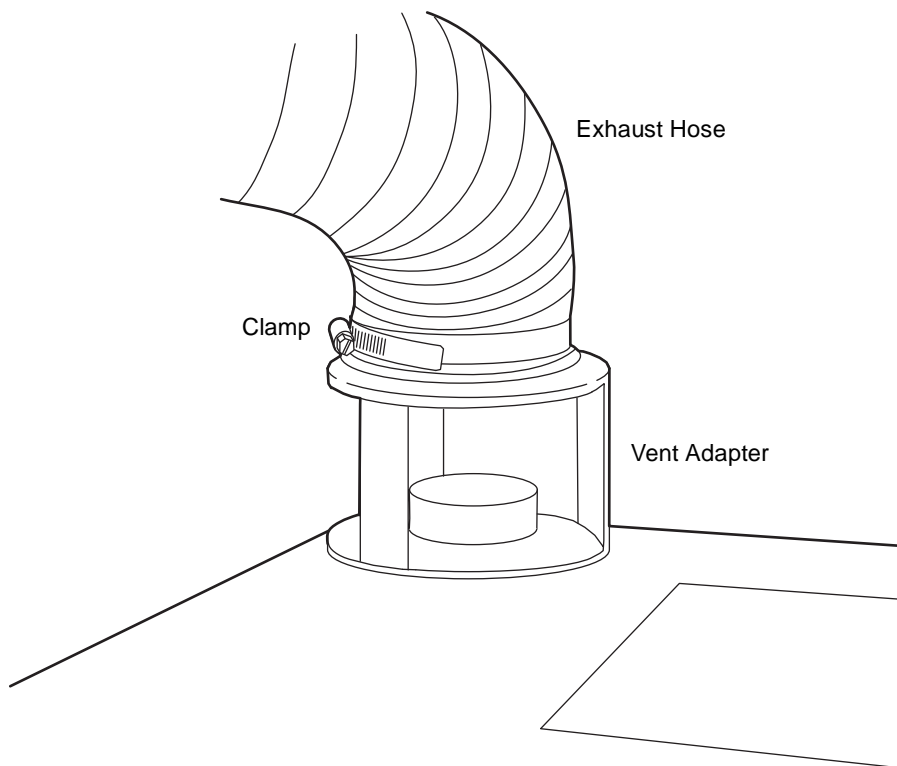

Figure 2-2 Connecting to an Exhaust Vent
- c. Connect the other end of the exhaust hose to the vent adapter (top-left rear corner of the system). Secure it with a clamp (Figure 2-2).